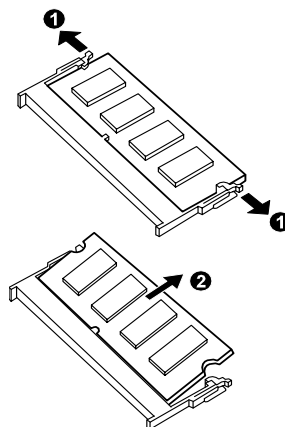

Figure 2-5 Remove the SO-DIMM
3. Pull the retaining clips outwards (❶) and remove the SO-DIMM (❷). (Figure 2-5)